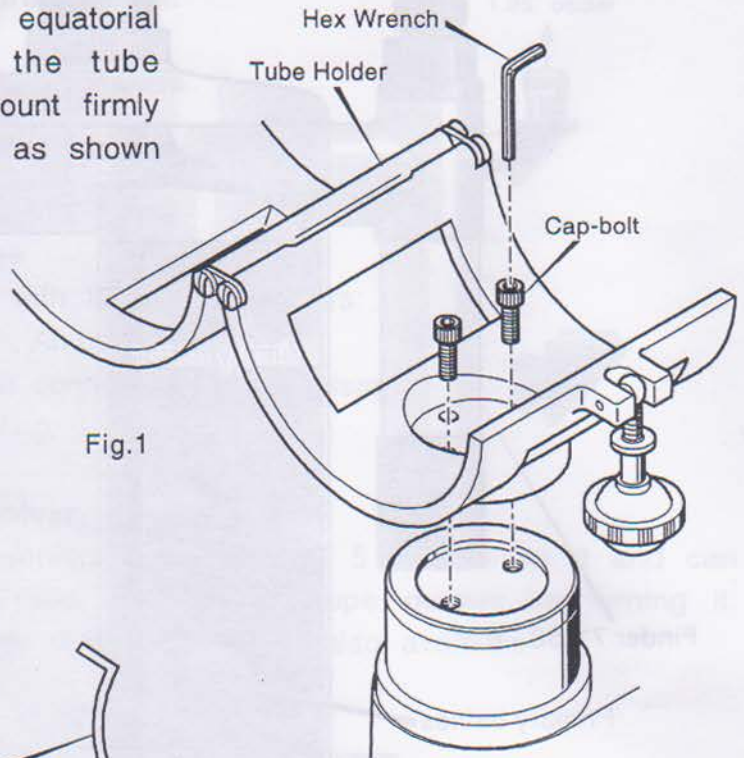

Fig.1
1. In order to attach the tube assembly onto the equatorial mount, first set the tube holder onto the mount firmly with two cap-bolts as shown in the fig.1.